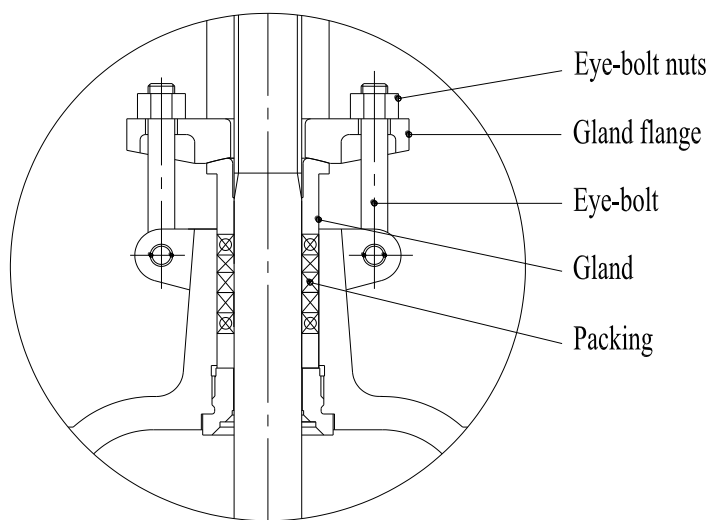

Figure 3 Valve Packing Bore Details
6.3.1 Relieve valve body internal pressure, loosen the eye bolts, and remove the gland flange and packing gland (see Figure 3). Lift the flange and gland as high as possible and secure for